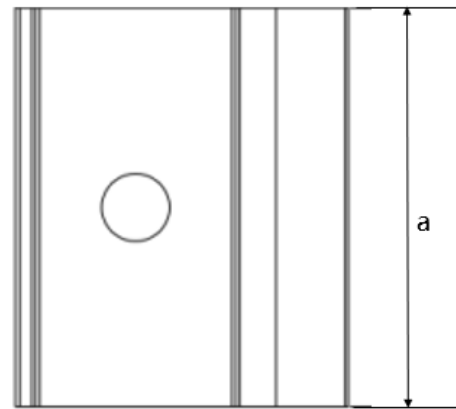
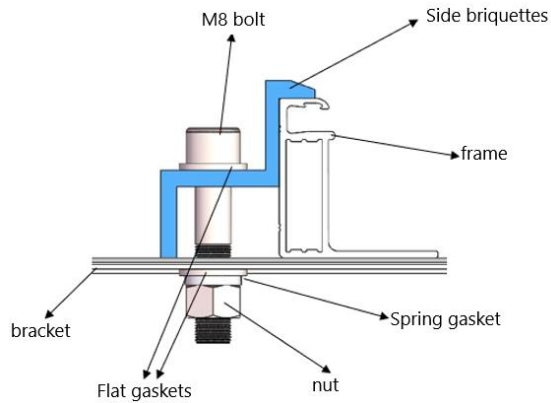

Fig. 7 Top view of fringe clamp
Fig. 9 Installation schematic diagram of fringe clamp
① Place the module on the two supporting rails (not provided by Astronergy) which should be made with stainless material and treated with an anti-corrosion process (e.g. hot dipped galvanizing). Each PV module needs at least four clamps to be fixed. The module clamps should not come into contact with the glass and should not deform the frame, otherwise they may cause module damage.
② Be sure to avoid shadowing effects from the module clamps. Weep holes on the module frame must not be closed or obscured by the clamps. The clamp must have an overlap of 8-11mm with the frame of the module and should not extend beyond it (The clamp section can be changed under the premise of ensuring reliable installation).
③ The top surface of the rail contacted with module frame should be equipped with grooves compatible with an M8 bolt.
④ If the grooves are not provided, holes of a suitable diameter may need to be drilled to allow bolts attaching to the rail at the same locations as mentioned above.
⑤ Ensure that the mounting sequence of each clamp is in the order of flat washer, spring washer and nut.
⑥ Figures 7 and 8 show the schematic diagram of the clamp, while Figures 9 and 10 show the installation schematic diagram of the clamp. The dimensions of the clamp are $a \geq 60$ mm, $d \geq 8$ mm, and the thickness of the clamp is ≥ 3 mm. The tightening torque is suggested to be 17~23N•m for Class 8.8 screw and bolts.